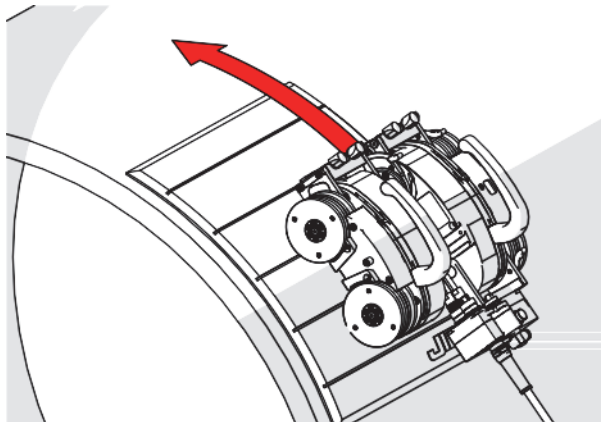
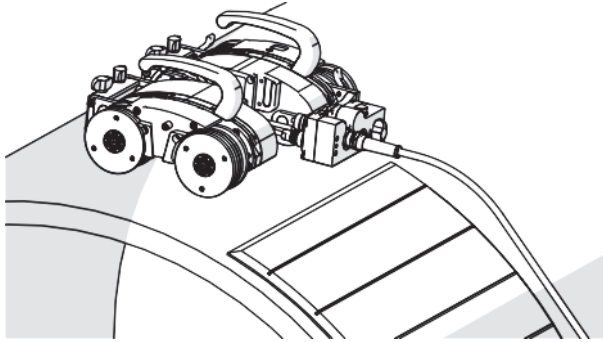

Figure 4-11 Drive the SteerROVER off the mat
Figure 4-12 Magnetized to surface
8. While holding the SteerROVER, use the Fwd/Rev joystick to carefully drive the scanner off the installation/removal mat and onto the inspection surface. When the SteerROVER is securely on the inspection surface, you may let go of the scanner (see Figure 4-11 on page 175 and see Figure 4-12 on page 176).